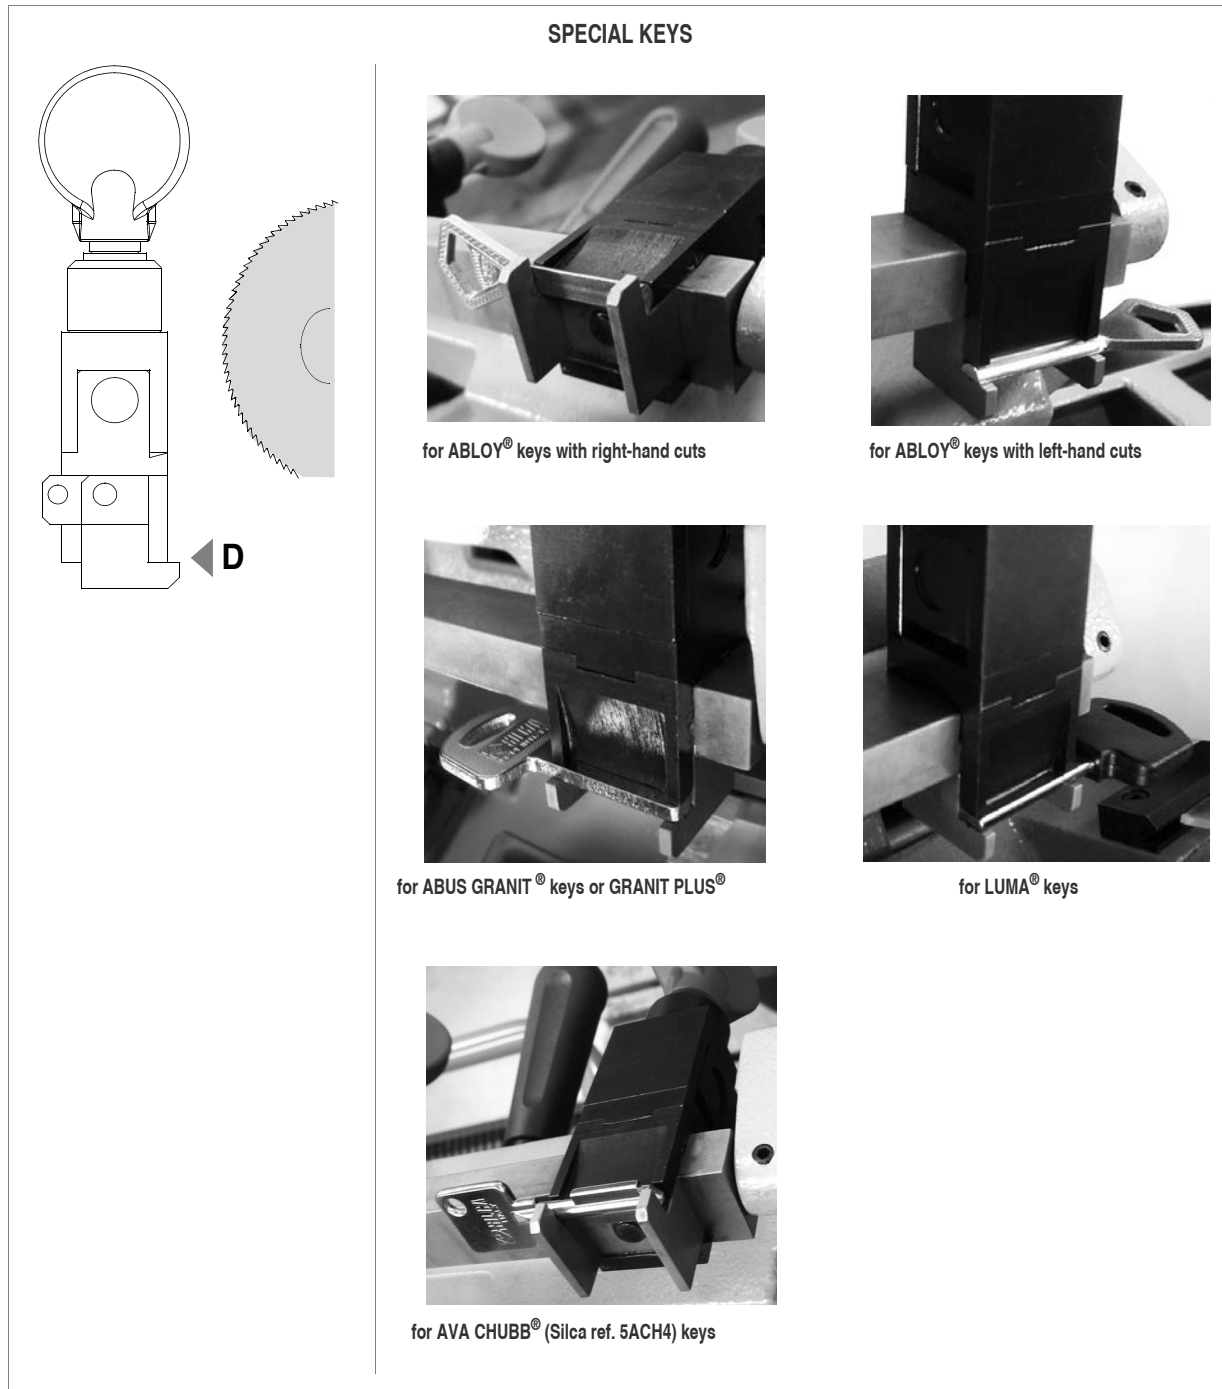

Fig. 44
- Clamp side for special keys such as Abloy®, Abus®, Luma®, Ava Chubb® (Silca ref.5ACH4) (position D) (fig. 44).